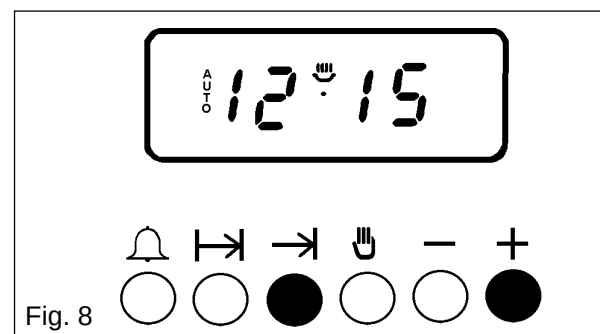

Fig. 8
- Set the STOP time. Press the stop time button (→) , while holding it down, press the increase control ( + ) until the required stop time is displayed, e.g. 12.15p.m. as Fig. 8. If necessary depress the decrease control ( - ) until the correct time interval is achieved.